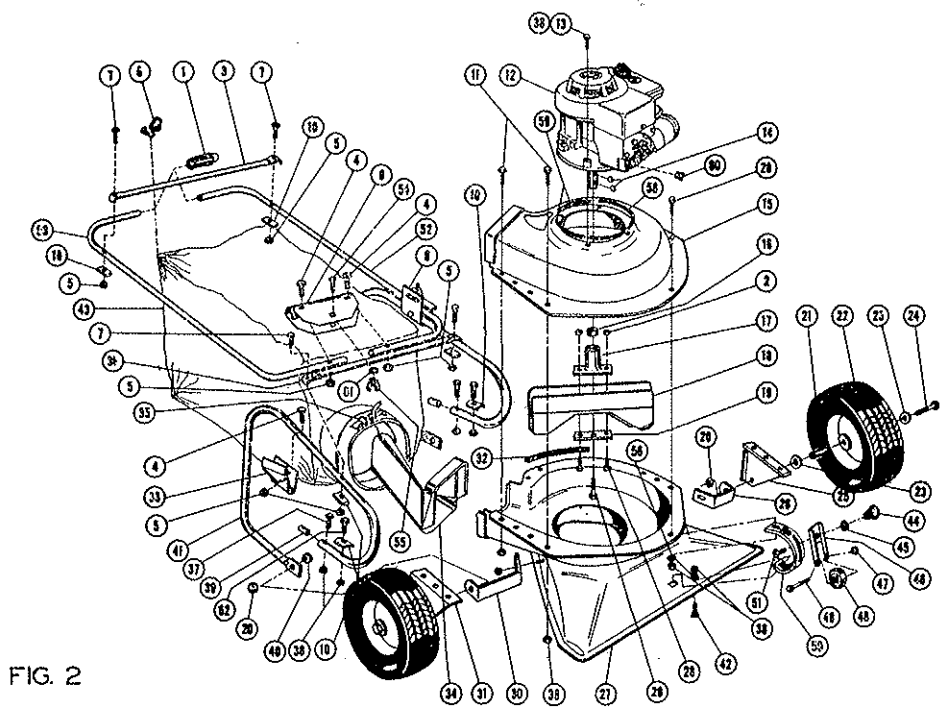

FIG. 2
2. Remove upper handle parts from carton. Place handle bracket, Ref. 8, Fig. 2, over the lower end of handles, Ref. 52 and 53 and secure in place with bolts, Ref. 7. Run  $\frac{1}{4}$ " thin nuts, Ref. 5, onto bolts, (do not tighten). Next, place the cross brace, Ref. 3, Fig. 2, on upper part of handles, insert  $\frac{1}{4} \times 1\frac{1}{4}$ " bolts, Ref. 4, apply clamps, Ref. 10, and run  $\frac{1}{4}$ " thin nuts, Ref. 5 onto bolts loosely. Place assembly with Ref. 8, over cross brace, as shown on front cover. Drop handles into channel locks, Ref. 9 and 33, which are assembled on machine. Insert  $\frac{1}{4} \times 1\frac{1}{4}$ " carriage bolt, Ref. 54, through (2) square holes in bracket, apply  $\frac{1}{4}$ " spring lockwasher and run on wing nut, Ref. 55. Close cams on channel locks. Tighten four nuts, Ref. 5, and handle is ready to use.
3. The bag hooks, Ref. 6, Fig. 2, are taped together and placed in bag. Remove these and insert them in the bag support straps. Install the bag as shown in Fig. 2, by placing the four bag hooks over the cross bars.
6. Assemble roller and Fork assembly to front roller support, Ref. 50, Fig. 2, by inserting carriage bolt, Ref. 51, Fig. 2, into slot from the back side. Place Fork over carriage bolt and align with roller support. Place lock washer, Ref. 45, Fig. 2, over carriage bolt; now install adjusting knob, Ref. 44, Fig. 2, on carriage bolt. Adjust roller to maintain desired height of Scavenger housing and tighten adjusting knob.